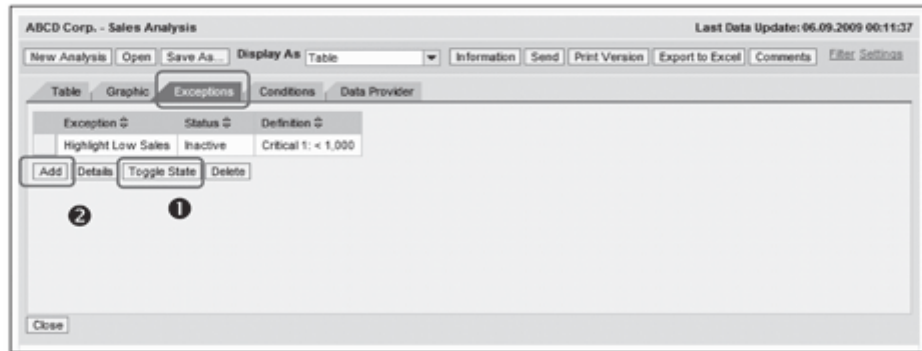

Figure 10.58 Analysis Settings: Exceptions
- ▶ **Exceptions:** This tab page shows the list of all exceptions defined on this data provider (Figure 10.58). You can toggle the state of the selected exception (active/inactive) using the Toggle State button (❶). You can also define new exceptions on the data provider using the Add button (❷).